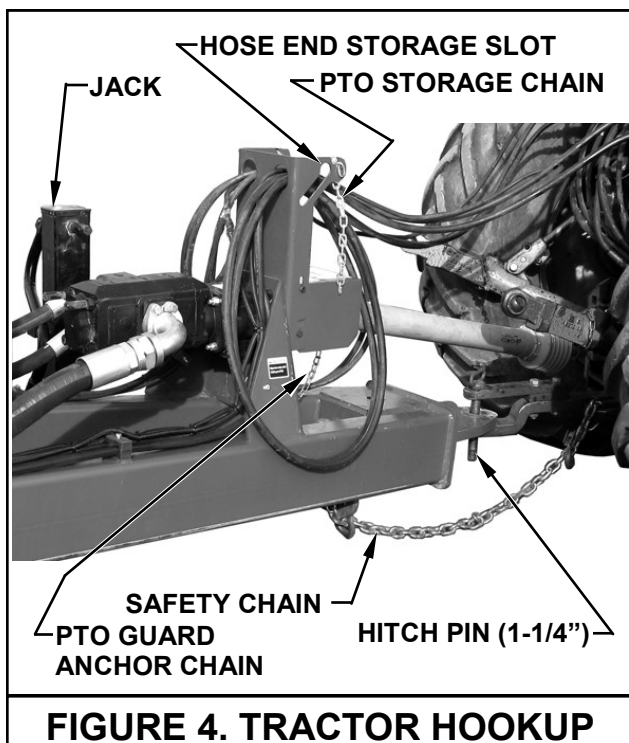

FIGURE 4. TRACTOR HOOKUP
See figure 4.
4. Remove the hydraulic hose ends from the tractor hydraulic ports and store the hose ends in the slotted hose storage brackets to keep them from dragging on the ground. See figure 4.
7. Unhook safety chain from tractor drawbar support. See figure 4.